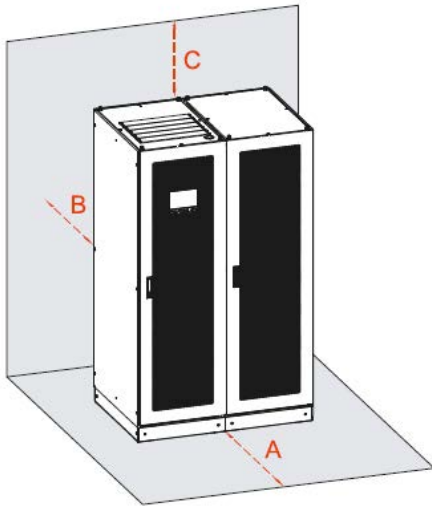

Figure3-2 Installation clearance(unit: mm)
- Keep appropriate clearance from the front panel and the rear panel of the UPS to the wall or adjacent device, from the top of the UPS to the ceiling for heat dissipation and maintenance, as shown in Figure3-2 and Table3-1.
Figure3-2 takes the IST6600 as example.